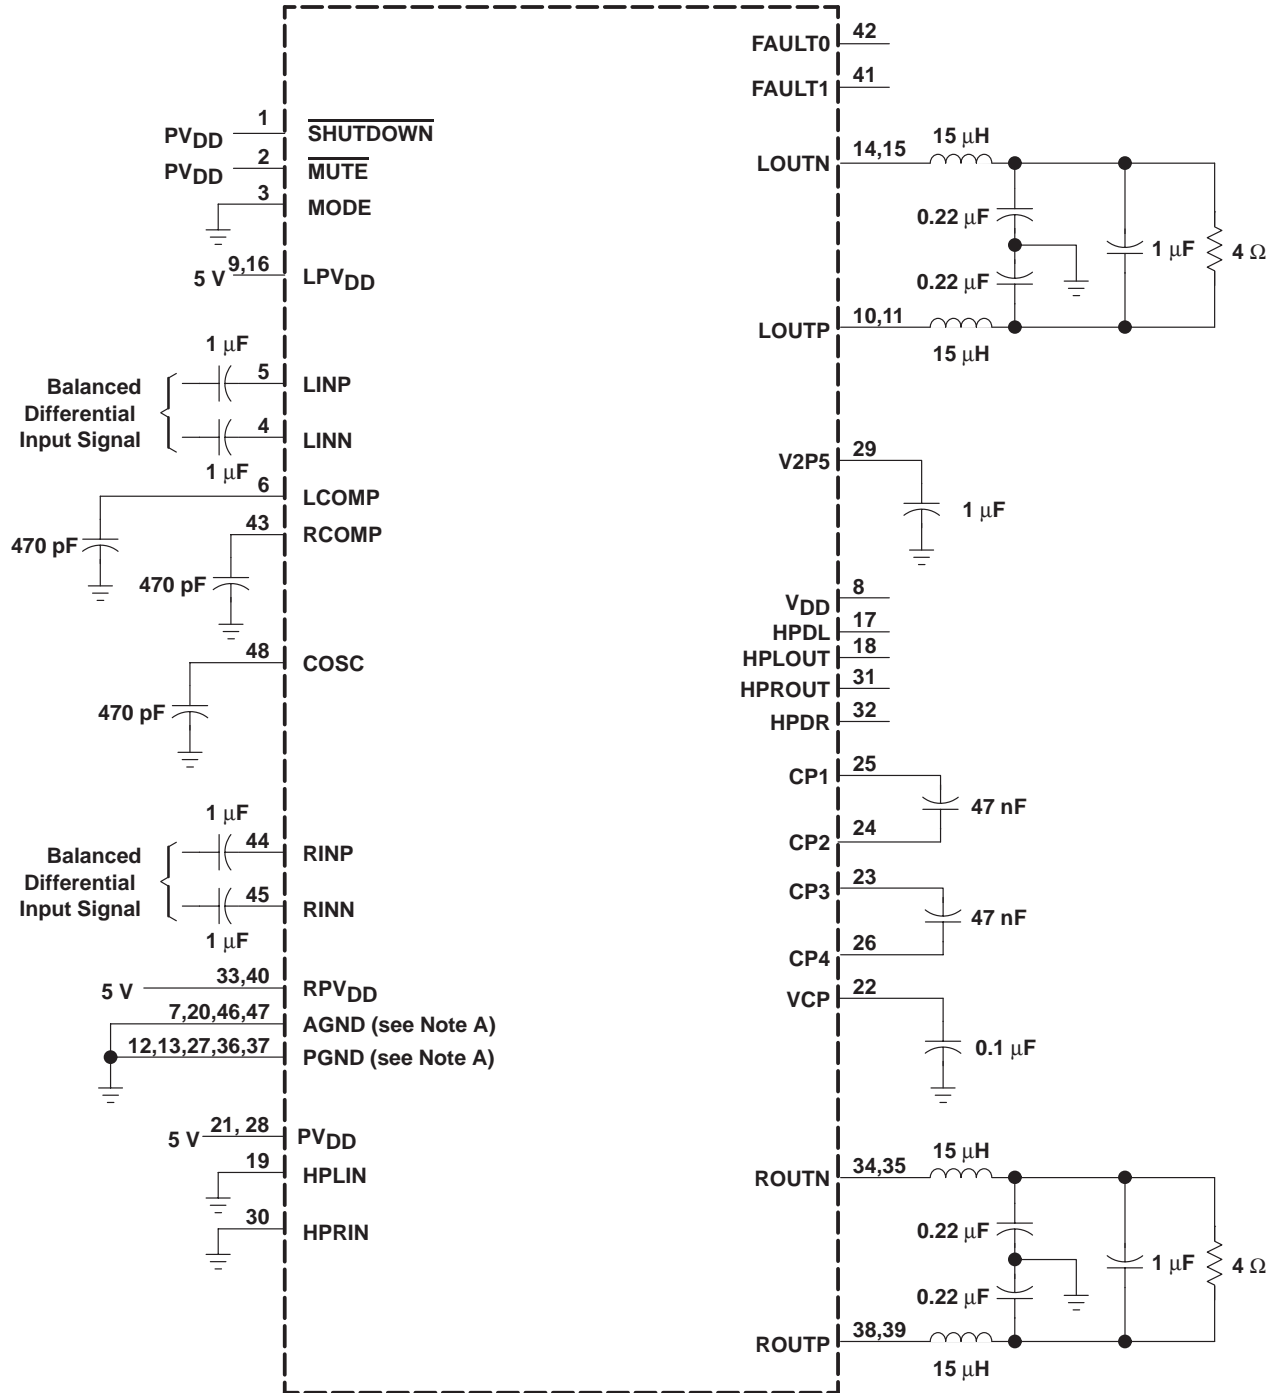

Figure 1. 5-V, 4- $\Omega$  Test Circuit, Class-D Amplifier
**electrical characteristics, Class-D amplifier,  $V_{DD} = PV_{DD} = LPV_{DD} = RPV_{DD} = 5\text{ V}$ ,  $R_L = 4\ \Omega$ ,  $T_A = 25^\circ\text{C}$ , See Figure 1 (unless otherwise noted)**
**operating characteristics, Class-D amplifier,  $V_{DD} = PV_{DD} = LPV_{DD} = RPV_{DD} = 5\text{ V}$ ,  $R_L = 4\ \Omega$ ,  $T_A = 25^\circ\text{C}$ , See Figure 1 (unless otherwise noted)**